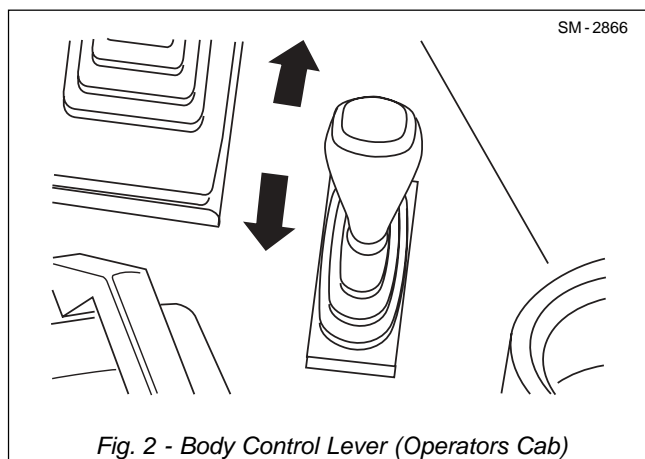

Fig. 2 - Body Control Lever (Operators Cab)
33. Take cover (13) and secure in place to countershaft case (20) using screws (12). **Note:** Cover threads of screws (12) with sealing compound.
34. Reassemble differential assembly, refer to Fig. 2. is the reverse of disassembly.
The pedal incorporates an idle validation switch which informs the engine ECM that the pedal is in the idle position. Kickdown switch, which can be used when automatic range is selected, allows for the possibility of selecting a lower gear by pressing down fully on pedal (2) and holding (see Fig. 2). This can be used to provide a downshift on demand provided that the vehicle speed is within the range allowable. That is, the vehicle is not travelling at a speed that would result in the engine overspeeding in the lower gear. To disengage the transmission kickdown, release the pedal (2) and allow it to return to a light throttle position. Refer to Section 120-0010, TRANSMISSION
Steering pressure can be checked at the diagnostic check point located inside the battery box (refer to Fig. 2). Install pressure gauge capable of reading at least 240 bar (3500 lbf/in²) to correct diagnostic check point.